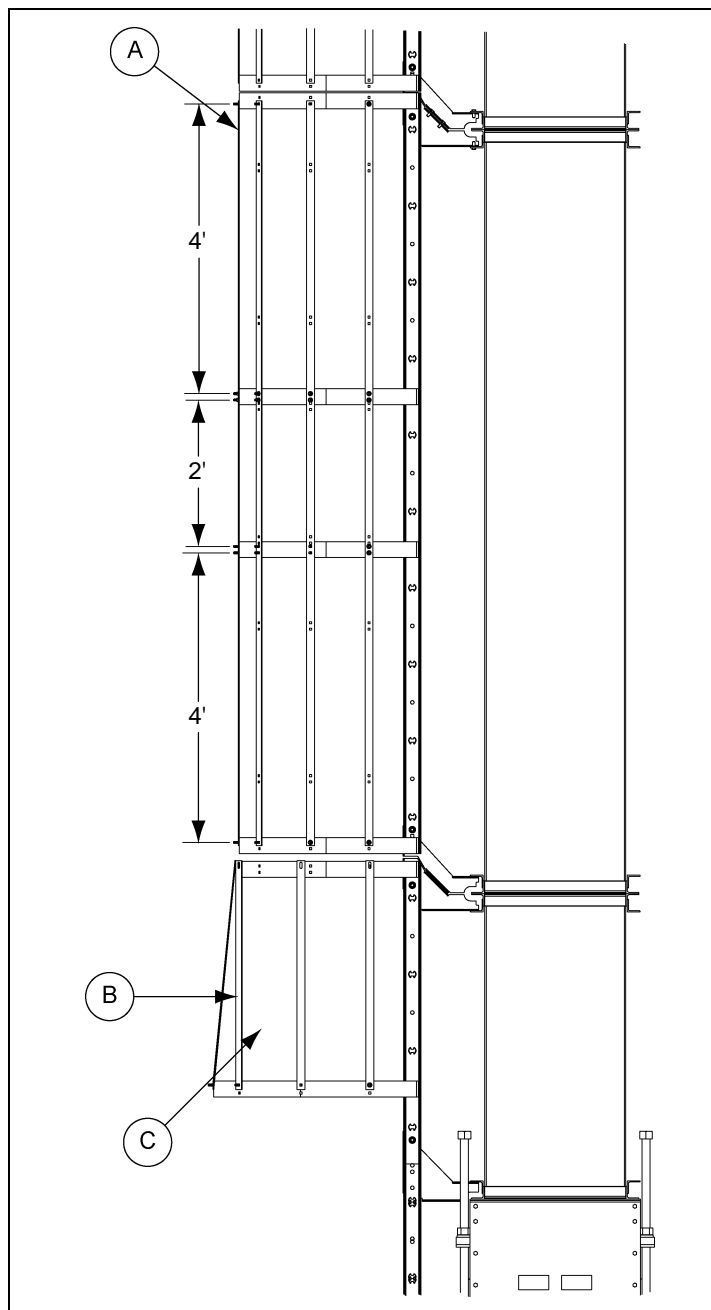

Figure 60 10' Safety Cage Section
1. Locate safety cage hoops (LDR-BCKTBHP) along the ladder rails where the safety cage hoops will be installed. **NOTE:** The end hoops of a 10' section are spaced 4' from the two (2) middle hoops, which are spaced 2' apart. See Figure 60 for spacing. (See Figure 60.)